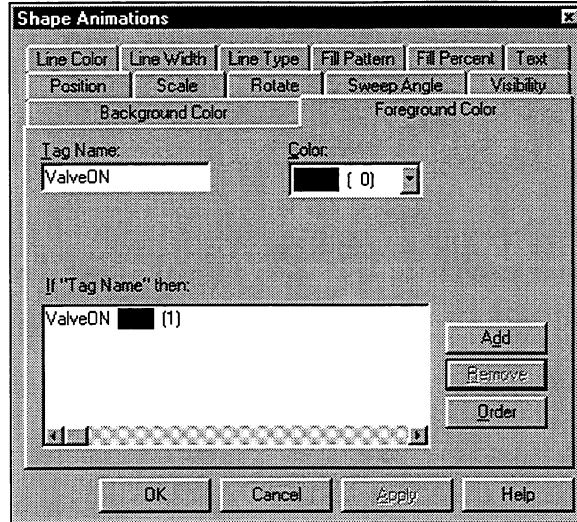

Figure 4-22. Configuring a Foreground Color Animation
10. Click Add to add the animation to the list box, as shown in Figure 4-22.